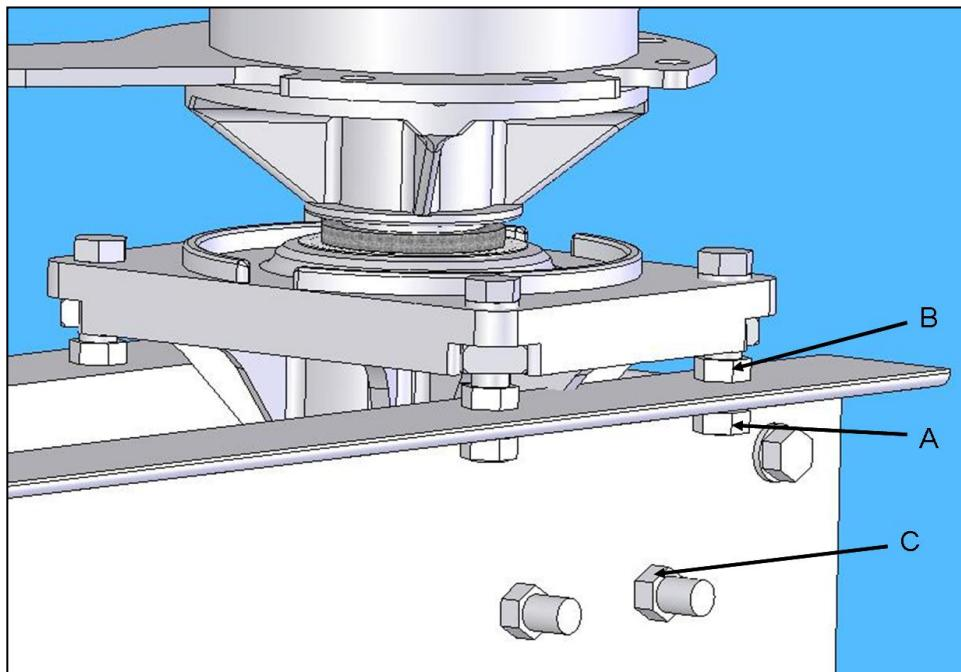
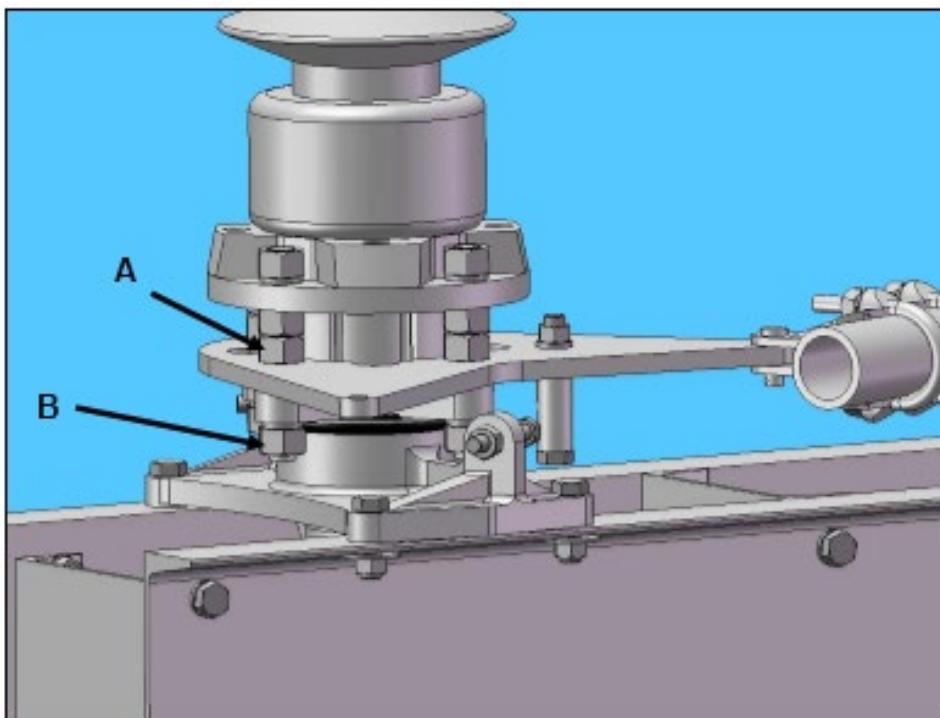
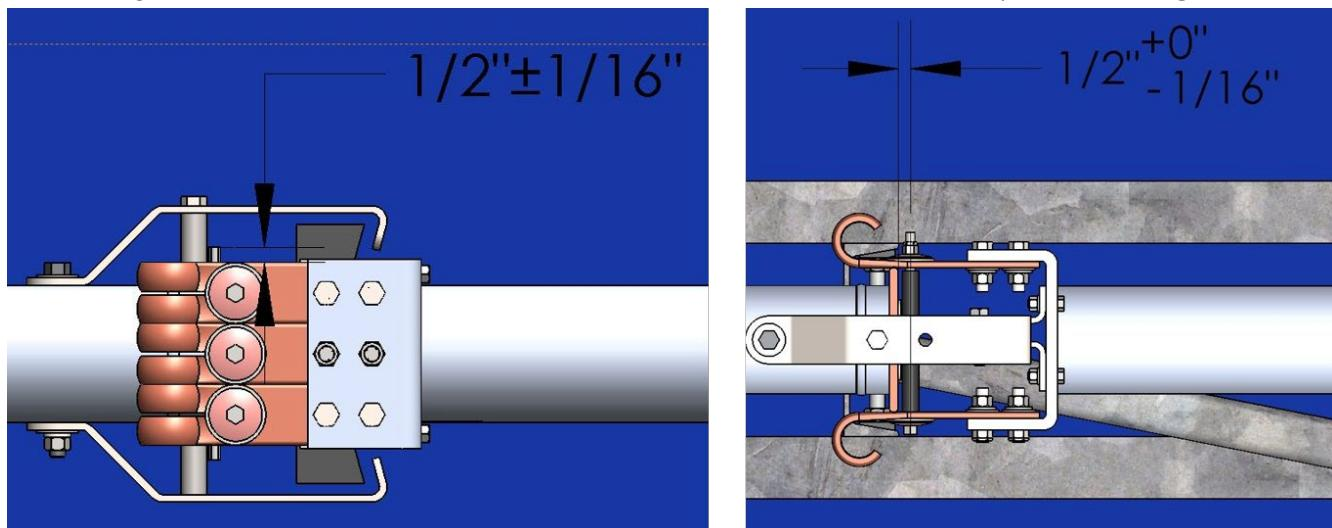

Figure 4: Insulator Stack Alignment (Heavy Duty Bearing)
Figure 5: Insulator Stack Alignment (Extra Heavy Duty Bearing)
Figure 8: Switch - Fully Closed Position (Left: Side View, Right: Top View)
6. Confirm proper insulator alignment, both insulators must be as near to perpendicular as possible to both the long and short axis of the disconnect switch base. **NOTE:** The original insulator stack height must be maintained. When the nuts on the jack bolts are used to adjust insulator tilt, opposite nuts must be turned equally (run one nut up a certain number of turns, turn the opposite nut down the same number of turns). Refer to **Figure 4** and **Figure 5**.
9. If the insulator needs adjustment, use the nuts on the jack bolts of the insulator bearing to tilt the insulator in the needed direction. Refer to **Figure 4** and **Figure 5**.
Refer to **Figure 4**:
- The male blade assembly should touch the blade stops as shown in **Figure 8**. If adjustment is necessary to achieve contact, loosen the bolts that attach the blades to the insulators, and use the bolt hole tolerances to adjust the spacing. If a gap is still present (**Figure 8**), utilize the insulator stack adjusting bolts to adjust further (Refer to **Figure 4** and **Figure 5**). Torque all bolts to the recommended value(s) shown in Table 2.
- Contact fingers should be centered or as close as possible on contact bar. All contact fingers must make contact with silver on contact bar in closed position as shown in **Figure 8**.
9. Refer to **Figure 5**,